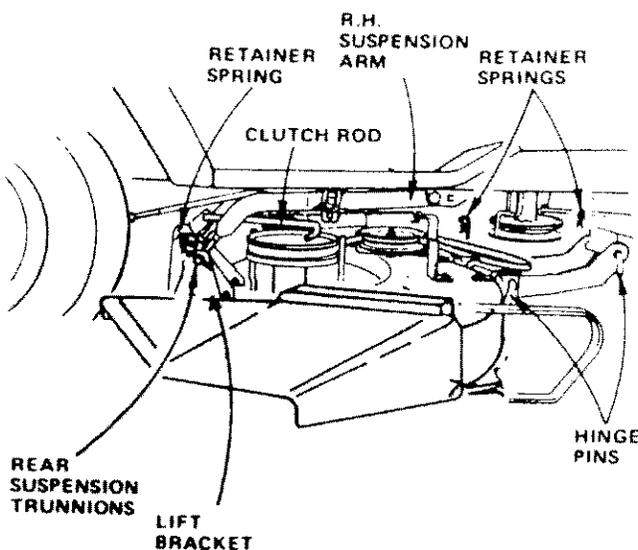
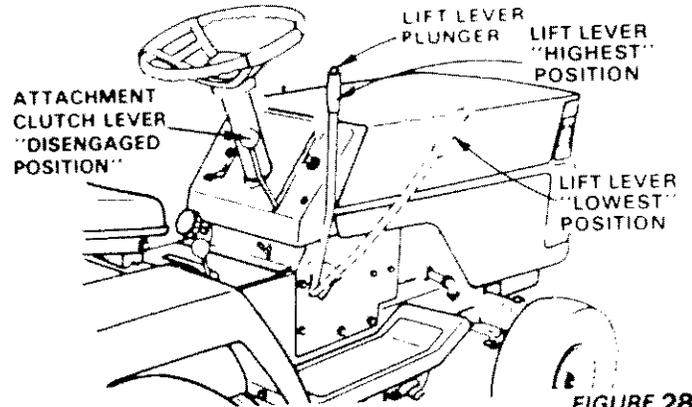
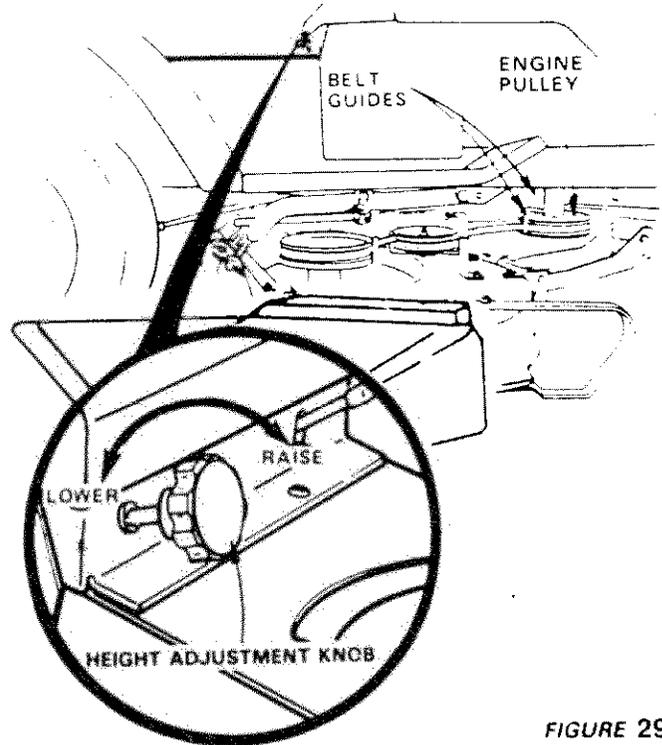

FIGURE 27
FIGURE 28
FIGURE 29
- Remove retainer spring from clutch rod; pull clutch rod out of clutch bracket. (Fig. 27)
- Pull retainer springs out of rear suspension trunnions. Remove rear suspension trunnions from lift brackets (Fig. 27).
- Pull retainer spring out of rear hinge pin. Remove rear hinge pin. (Fig. 27)
- Pull retainer spring out of front hinge pin. Remove front hinge pin (Fig. 27).
NOTE: IF AN ATTACHMENT OTHER THAN THE MOWER DECK IS TO BE MOUNTED ON THE TRACTOR, THE L.H. AND R.H. SUSPENSION ARMS (FIG. 27) SHOULD BE REMOVED FROM TRACTOR.
Your Mower installs without the use of tools. Raise Attachment Lift Lever (Fig. 28) to its highest position. Turn height adjustment knob to lowest position (Fig. 29).
- Move Attachment lift lever (Fig. 28) forward to lower suspension arms. Slide trunnions through lift bracket holes and secure with retainer springs (Fig. 27).
- Roll belt over engine pulley. Make sure belt is inside belt guides (Fig. 29). See belt drive schematic decal on mower housing.
- Use Attachment lift lever (Fig. 28) to raise mower.
- Turn height adjustment knob clockwise (↻) to the middle of its travel, or to desired cut height (Fig. 29).
- Place attachment clutch lever in "Disengaged" position (Fig. 28).
- Turn height adjustment knob to lowest position. Move Attachment lift lever (Fig. 28) forward to lower mower to its lowest position.
- Roll belt off engine pulley (Fig. 29).